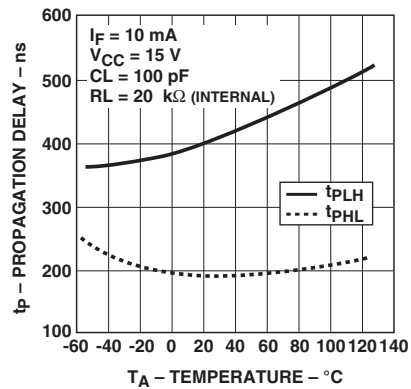

Figure 8. Propagation delay with internal 20 kΩ RL vs. temperature
- Due to the tolerance of the internal resistor, and since propagation delay is dependent on the load resistor value, performance can be improved by using an external $20\text{ k}\Omega$ 1% load resistor. For more information on how propagation delay varies with load resistance, see Figure 8.